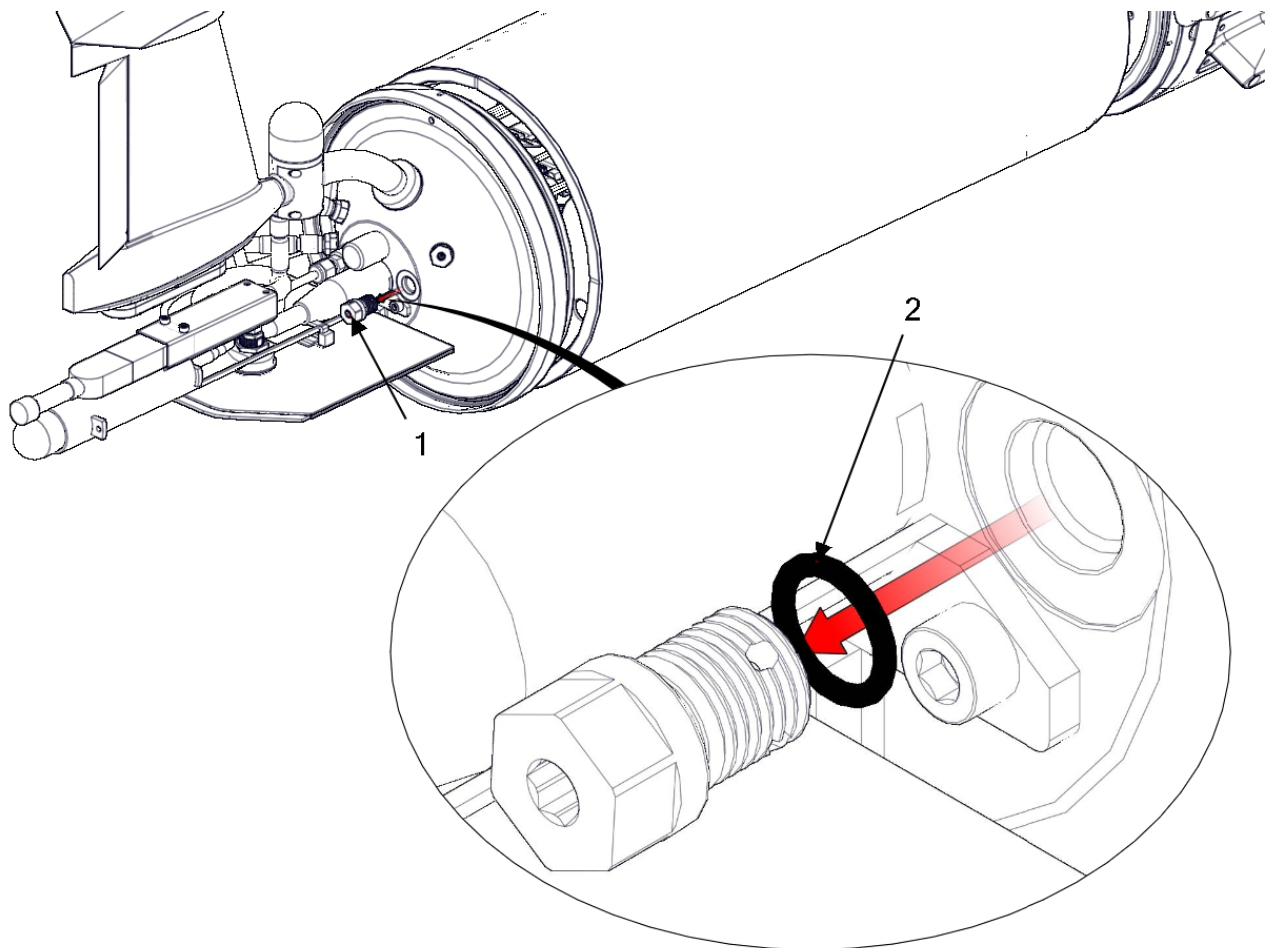

Figure 2-35 MS plug.
1. Use the hex wrench to remove the MS plug (Figure 2-35, Item 1).
2. Remove the 3-904 O-ring (Figure 2-35, Item 2).
1. Inspect the 3-904 O-ring (Figure 2-35, Item 2) for cleanliness, nicks, slices, scratches, and dents.
2. Lubricate the 3-904 O-ring (Figure 2-35, Item 2).
3. Install the 3-904 O-ring (Figure 2-35, Item 2). Ensure that it is properly seated.
4. Install the 7/16" MS plug (Figure 2-35, Item 1) on the starboard side of the aft end cap with a 3/16" hex driver.